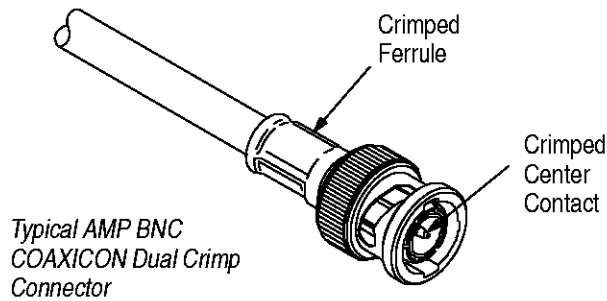

Figure 5
5. Remove crimped assembly from tool. Refer to Figure 5 for a properly crimped connector.